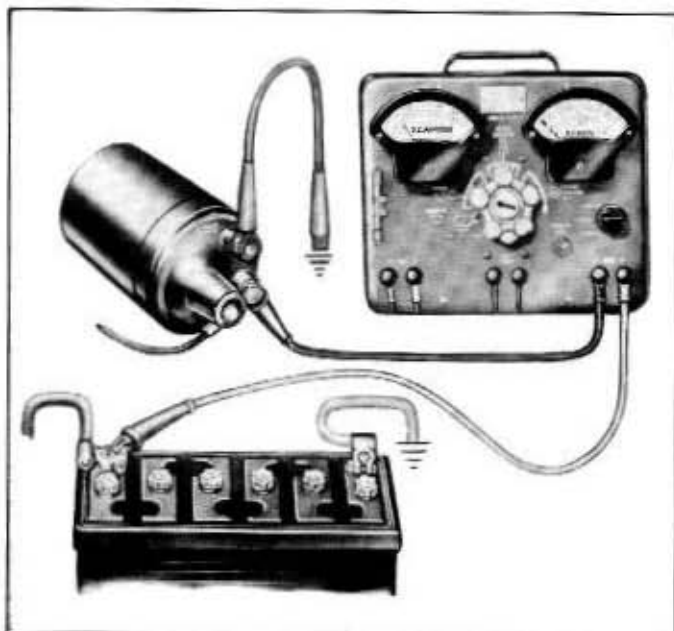

Fig. 9-47—Primary Circuit Resistance Test—(60C-7740)
2. Connect test leads as shown in figure 9-47. Connect red voltmeter lead to Positive terminal of battery and black voltmeter lead to battery terminal of coil.